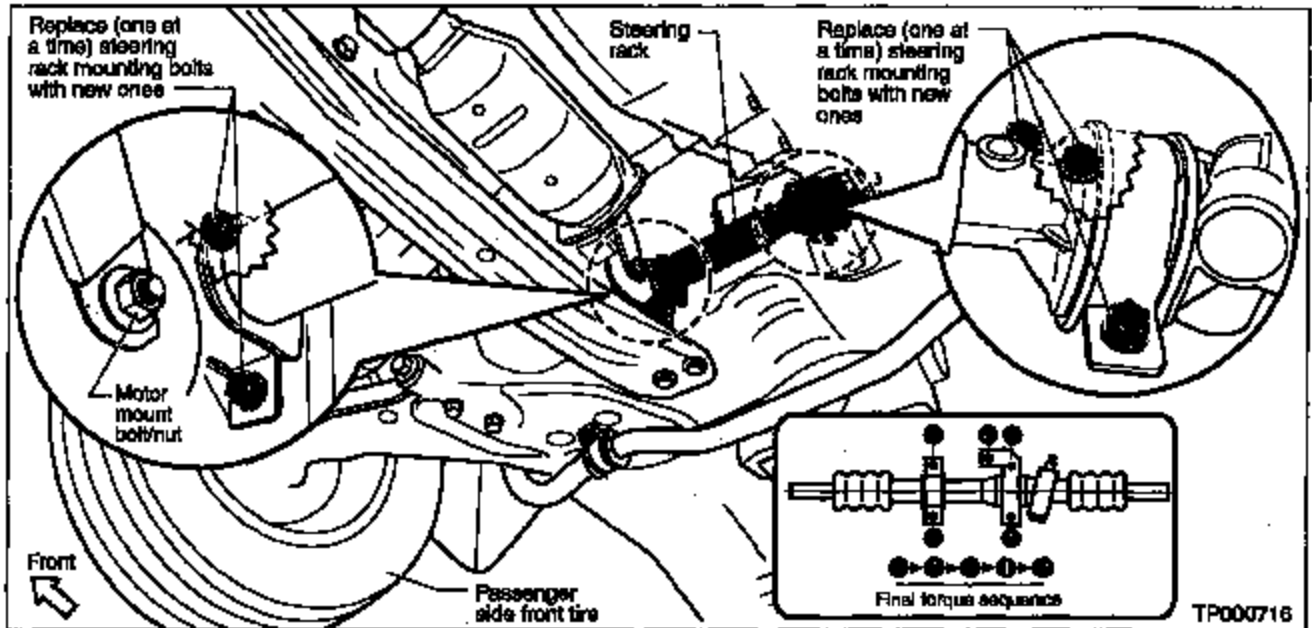

Figure 8
2. Replace, one at a time and finger-tight ONLY, the five old steering rack mounting bolts with the new bolts. See Figure 8.
3. Tighten the new steering rack mounting bolts to 78 Nm (8 kg-m, 58 ft-lbs) according to the "Final torque sequence" in Figure 8.